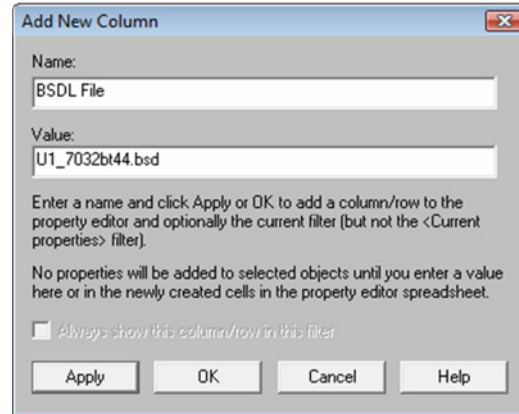

Figure 2: Add New Column Dialog
3. Add a new column to the property editor by clicking on the **"New Column"** button. In the resulting dialog box, add a column called **"BSDL File,"** as shown in Figure 2